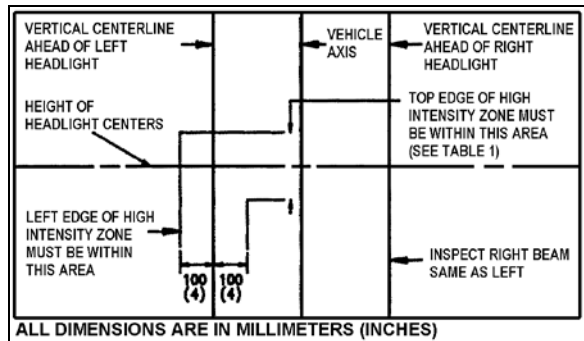

FIGURE 37: AIM INSPECTION LIMITS FOR LOWER-BEAM HEADLIGHTS 06506
8. The inspection limits in the vertical direction for low-beam headlights or the low beam of a dual-beam headlight, shall be as described in Table 1. In the horizontal direction, the left edge of the high-intensity zone shall be located from 10 cm (4 in) left to 10 cm (4 in) right of the vertical centerline of the beam. The viewing screen shall be located 7.6 m (25 ft) in front of the vehicle (Figure 37).